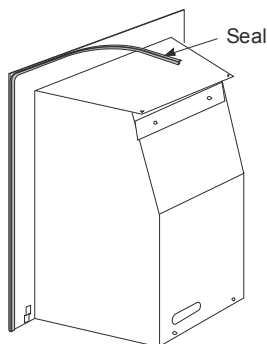

Figure 55
3. Apply the foam sealing strip all round the rear edge of the firebox flange by removing the protective backing paper. (See **Figure 55**).